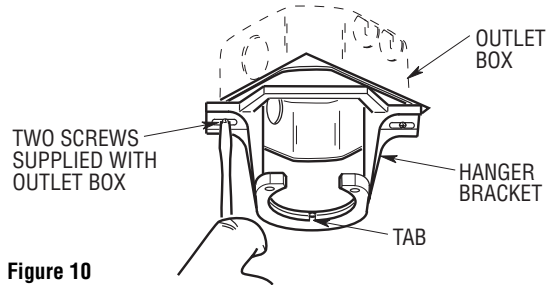
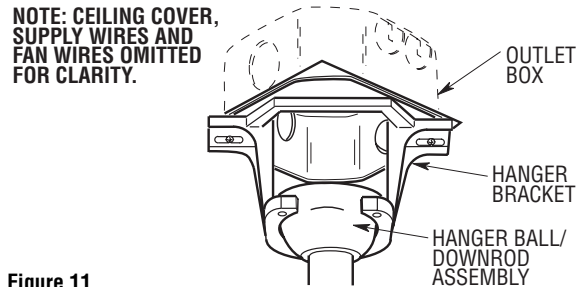

Figure 10
Figure 11
- Securely attach the hanger bracket to the outlet box using the two screws supplied with the outlet box. (Figure 10.)
- Carefully lift the fan and seat the hanger ball/downrod assembly on the hanger bracket that was just attached to the outlet box (Figure 11). Be sure the groove in the ball is lined up with the tab on the hanger bracket (Figure 10).